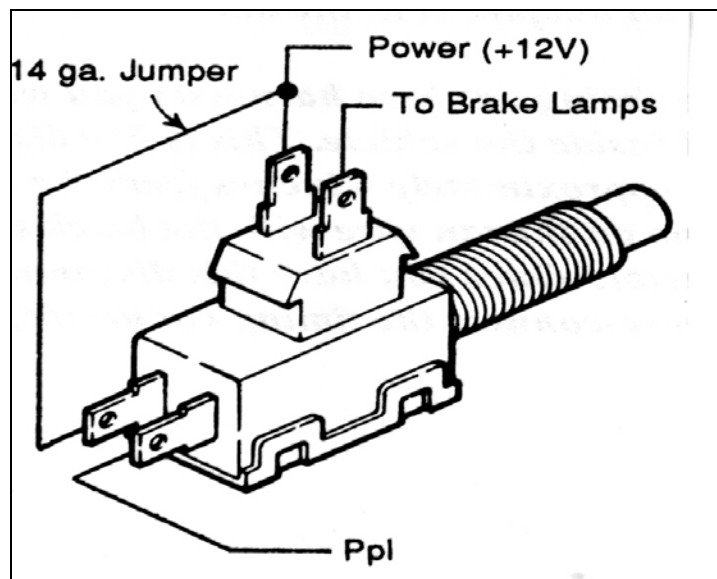

Figure 6.5 Brake switch
6.1.10. If you are using the recommended brake switch then you will wire it according to **Figure 6.5**. The wire jumped to the back of the switch in the illustration is the wire that has power on it whether or not the brake is being applied. If you have installed your own switch then it must connect the single purple wire to power ONLY when the brakes are NOT being applied. If you are using a hydraulic brake switch see page 33 for proper wiring using a relay.